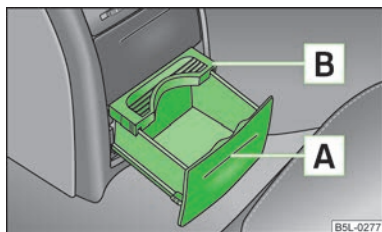

Fig. 66
- Press on the panel in the area **A** » Fig. 66 - the cup holder comes out.